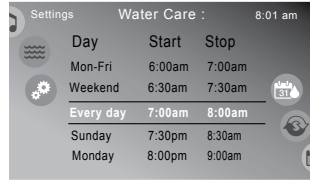

Figure 12.1d
2. Then tap the plus sign, **+**, to add a new cycle or tap the cycle to change, Weekend 1:00am 3:00am . The display will change to Figure 12.1d.